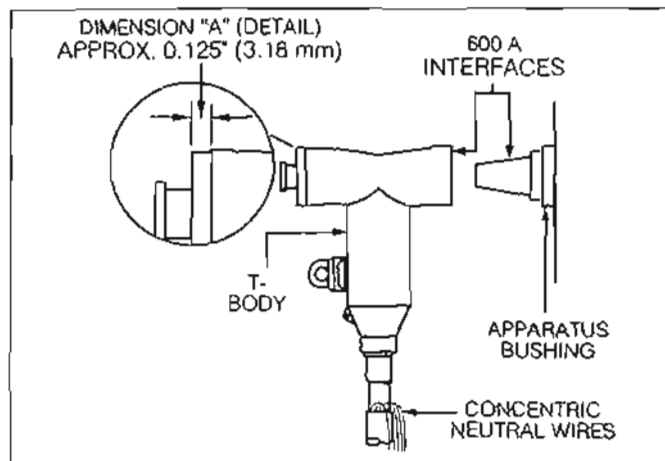

Figure 13.
- Tighten insulating plug to apparatus bushing using torque wrench and 1-inch socket. Tighten plug clockwise to 55 ft-lbs of torque. (Refer to Figure 13.)